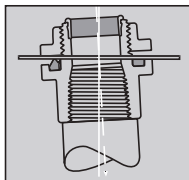

Fig. 1
- 1 Sealing Ring and Groove with innovative profile outperforms standard O-ring design. Sealing ring is captivated in place before installation and resists buckling or slipping during installation. The seal groove is designed for optimum compression of the sealing ring. The sealing ring is designed to provide a complete 360° seal, even when the conduit is not perpendicular with the enclosure. (See **Figure 1**)